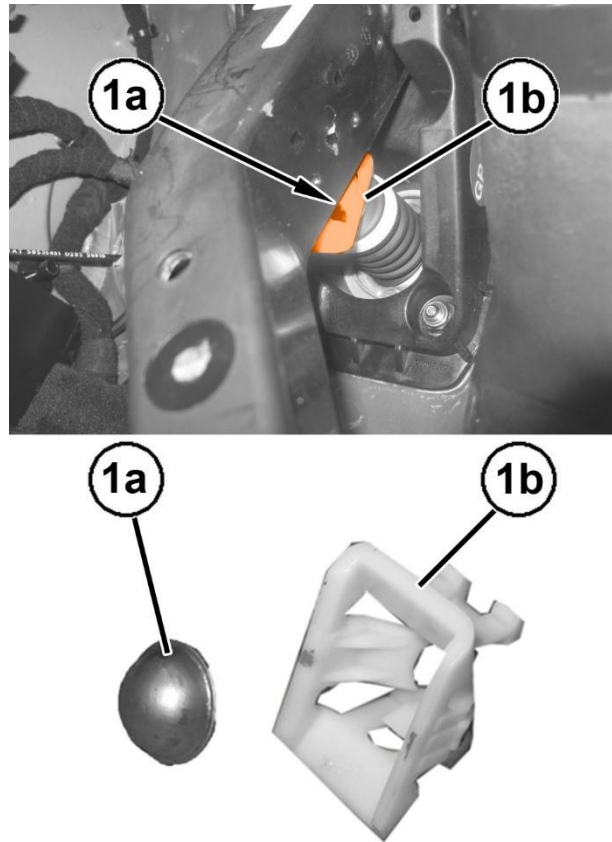

Figure 102 – Brake Pedal Retainer
46. Remove the cup (1a) and the retaining device (1b) from the push rod of the ABS control module (1c) (Figure 102).